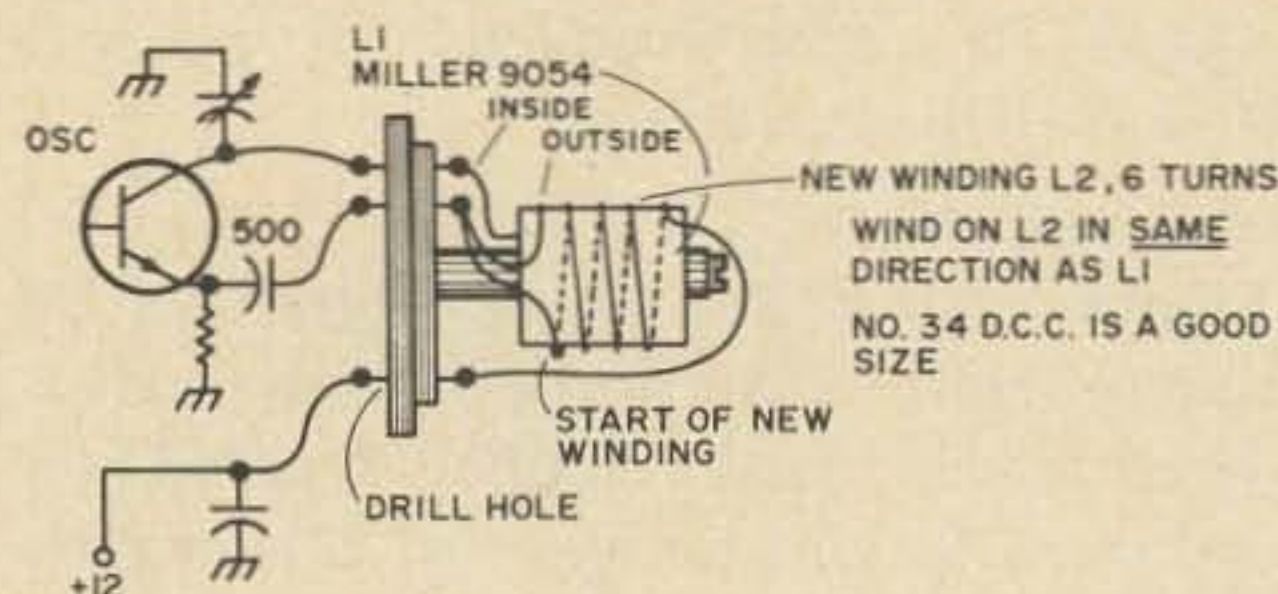

Fig. 4. Oscillator coil detail, 1.785 MHz.
- L2 = Add-on winding, see text and Fig. 4.
sure that the outer cup core stays in place inside the can. Figure 4 shows the oscillator winding details. You *must* get the direction
of the feedback winding right or it will not oscillate. Find the direction of the winding making up the original 9054 by looking for the wire coming off the outside and going to one of the two terminals. Then wind on an additional 6 turns in the same direction without changing L1. Figure 4 should show you exactly how this is done. Join the start of L2 to the outer end of L1 at the pin. This point will now become the emitter tap connection as shown in Fig. 3. Bring out the finish of L2 and connect it to the B+, bypassed by C3.